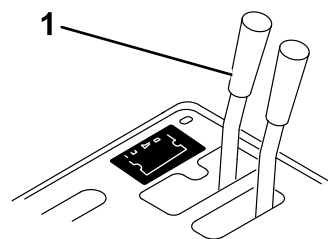
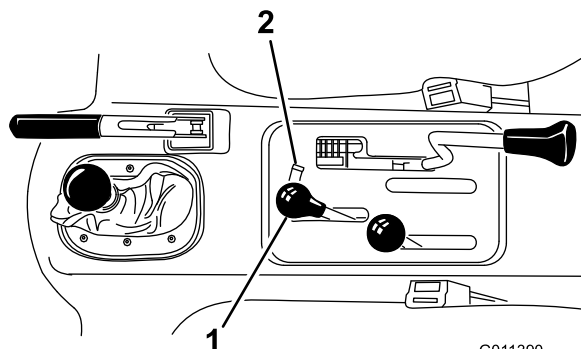

Figure 14
Figure 15
1. On vehicles with serial numbers prior to 239999999, move the remote hydraulic valve handle (Figure 14) to the float position and on vehicles with serial numbers 240000001 & up, move the hydraulic lift lever (Figure 15) back and forth to remove the system pressure and ease the disconnection of the quick couplers.